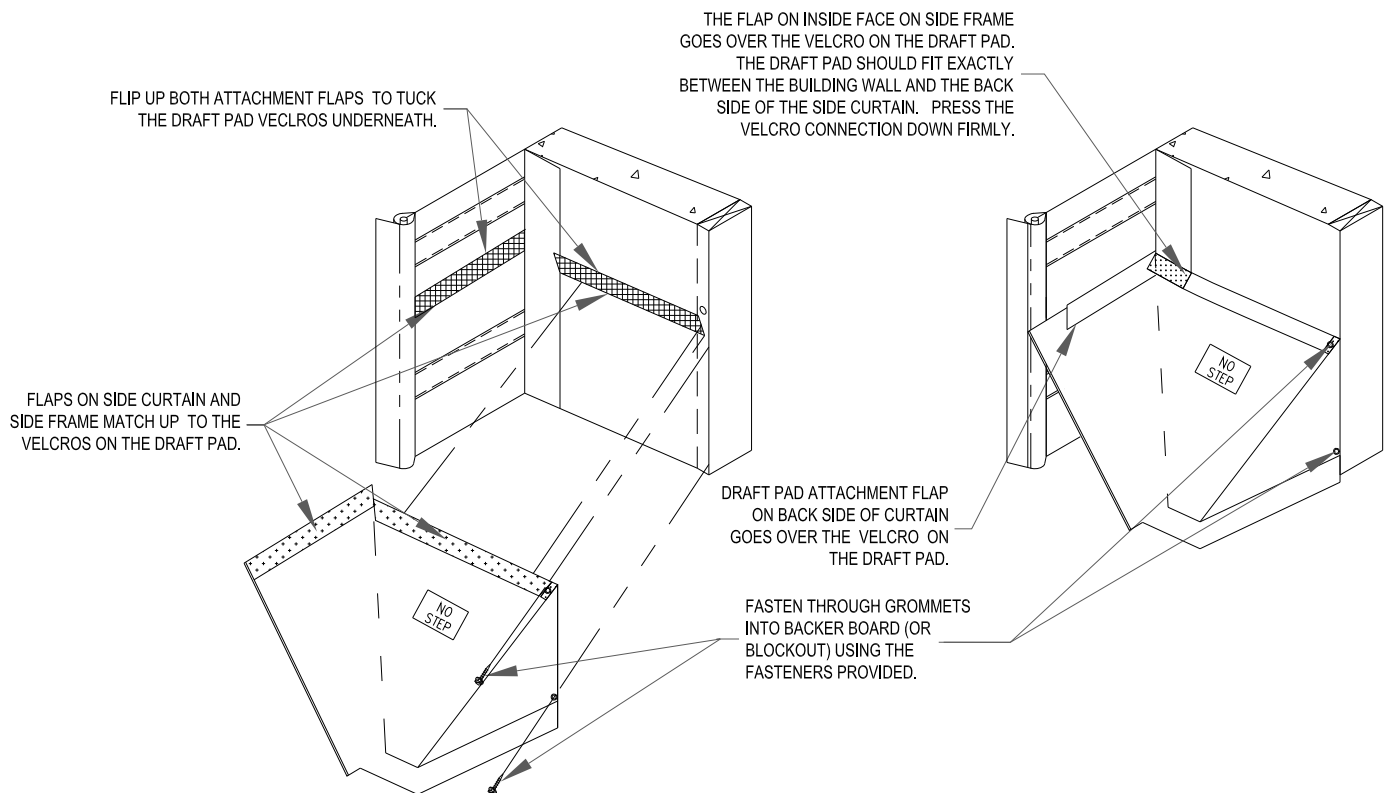

FIGURE 27
1) Align the draft pad main body velcro top edge to the inside of the side member velcro attachment flap. The velcro flap on the side member lays over the velcro on the draft pad. The draft pad should fit exactly between the building wall and the back side of the side curtain. Next, lay the velcro flap on the back side of the side curtain over the large velcro flap on the draft pad. Finally, install the two fasteners through the grommets into the backer board on the side member as shown. (See Figure 27)